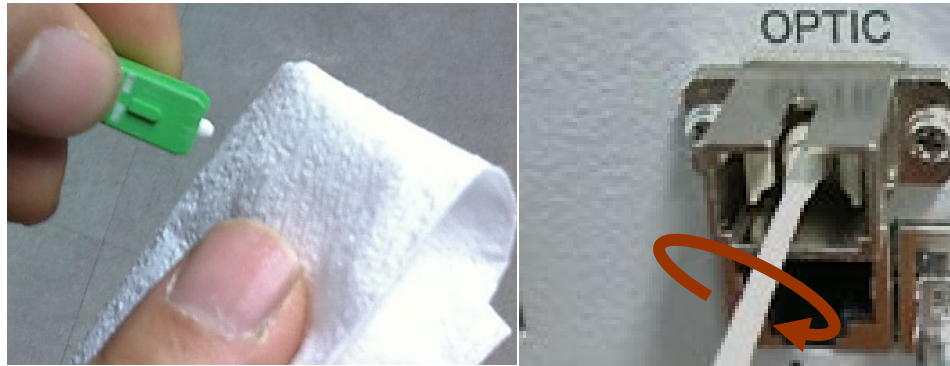

Figure 6-5 Optic Connector Cleaning (left) and Optic Port Cleaning (right)
- We recommend cleaning optic connector using a dry optical cleaning swab or tissue in a dry environment as needed. We recommend cleaning the optic connectors only if the expected optic loss is higher than the loss reported in the Web-GUI by 1.5dB. (Figure 6-5)